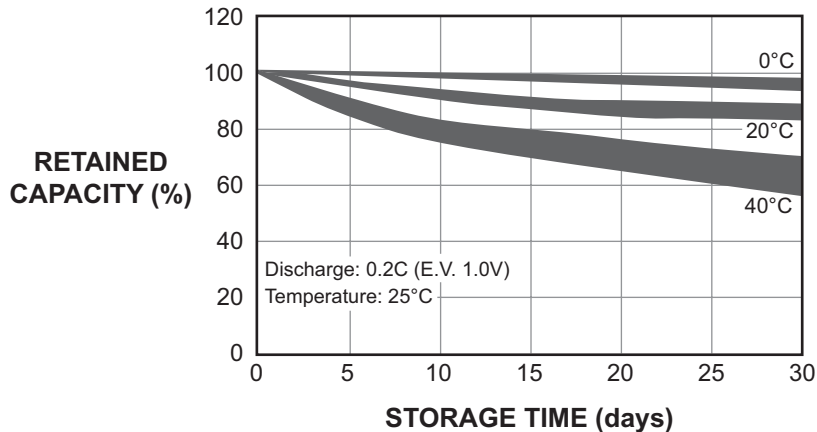

Figure 2-35. NiMH Battery Storage Characteristics
It is normal for NiMH batteries to self-discharge during storage (Figure 2-35) and to degrade to 80% of original capacity after 12 months of continuous use.
- Storing the battery in extreme hot or cold places will reduce the capacity and lifetime of the battery. The battery will discharge faster at higher ambient temperatures (see Figure 2-35).